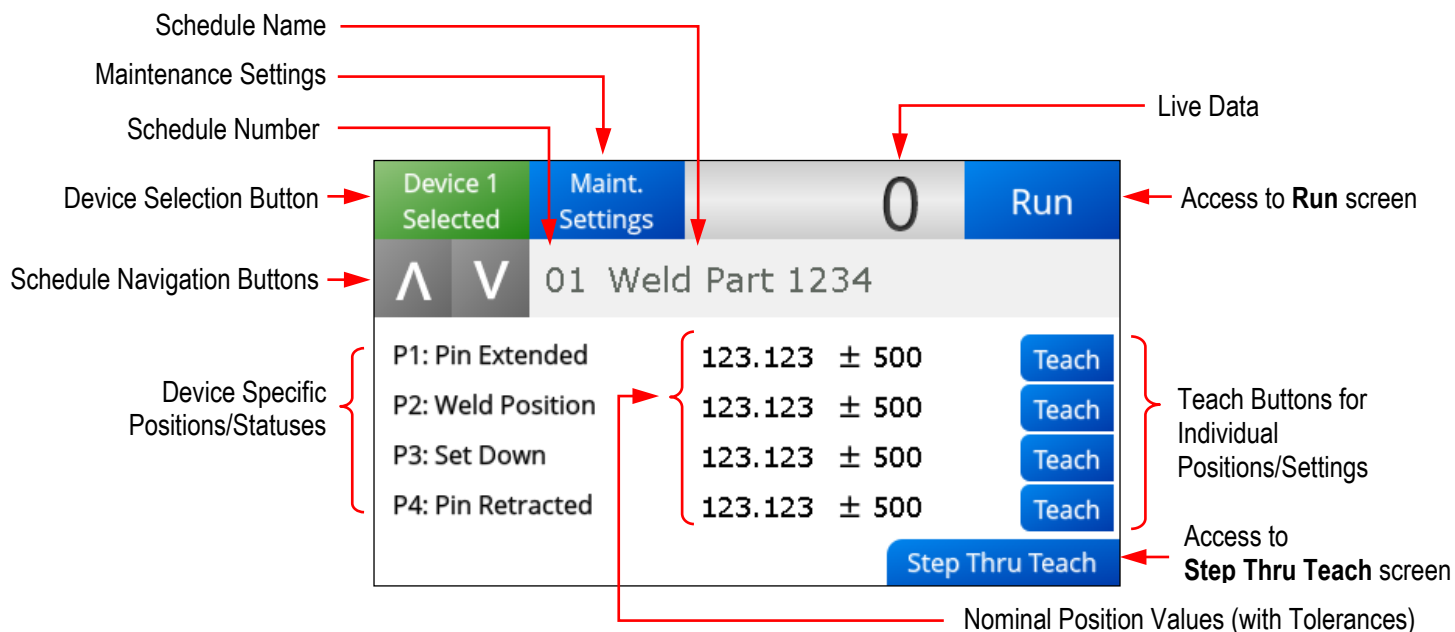

Figure 13 – Teach Screen
The following areas can be identified on the Teach screen (see Figure 13 above):
- Device 1 Selected** – Allows the user to select between the two devices connected to the MicroView, with the intent of teaching schedules for the selected device. In Figure 13 above, for example, Device 1 is a VeriFast™ LVDT (or IA). The user can now select or define a schedule for the current device. Within the current schedule, the user can program the P1, P2, P3, and P4 positions/statuses listed on the screen. See the bullets that follow.
- **Nominal** (position value) – This field indicates the already taught value (if any) for the currently selected position/status (P1, P2, P3, or P4). (**Note:** This value corresponds to the *Nominal Position Values* shown in Figure 13 – Teach Screen on page 30).